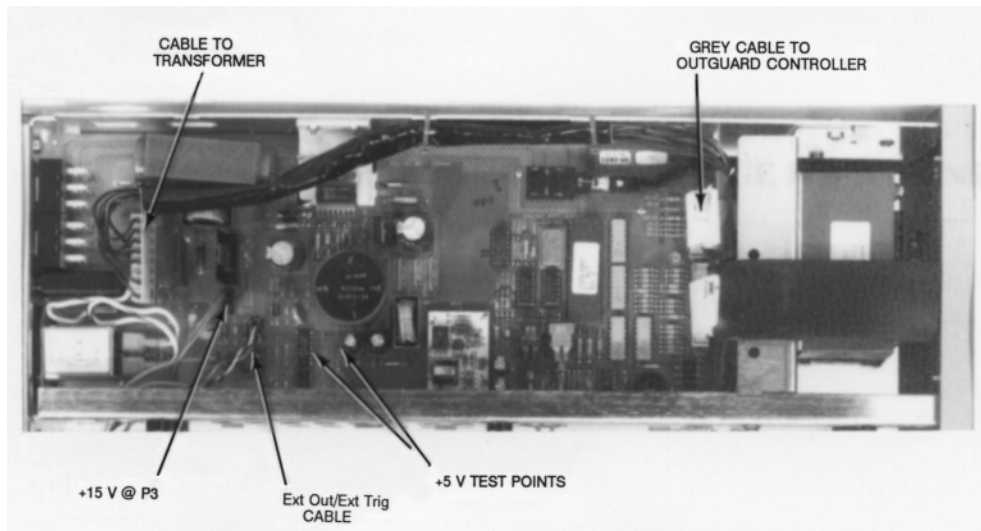

Figure 4-2 Outguard power supply
- 2 Refer to Figure 4-2 to locate the Ext Out/Ext Trig cable plugged in on the Outguard Power Supply (A6) assembly. Unplug the cable from socket P301.
- 2 Refer to Figure 4-2. Unplug the 2-pin cable from socket P3. The cable is connected to the fan.
- 3 Turn the instrument on. Use a digital multimeter to measure for approximately +15 V at socket P3, as shown in Figure 4-2.
- b Refer to Figure 4-2 to locate the 8-pin cable that connects the Outguard Power Supply (A6) assembly to the power transformer. Unplug the cable at the power supply assembly.
- 2** Refer to Figure 4-2. With the test digital multimeter, check for +5 V (± 0.25 V) at the test points shown in the figure.
- 6** Refer to Figure 4-2. Unplug the gray 20 pin cable connected to the Outguard Controller (A5) assembly.